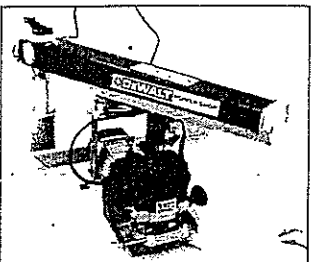

Fig. 65
- (iv) You are now in a position to fit the cutter of your choice into the router and begin working. You can either hold the router in a fixed position (Fig. 65), at whatever angle is required to provide the shape you need, and feed the material against the rotation of the cutter (as you would with the Drum Sander attachment). This is the method of operating to use when you are routing an irregular shape.